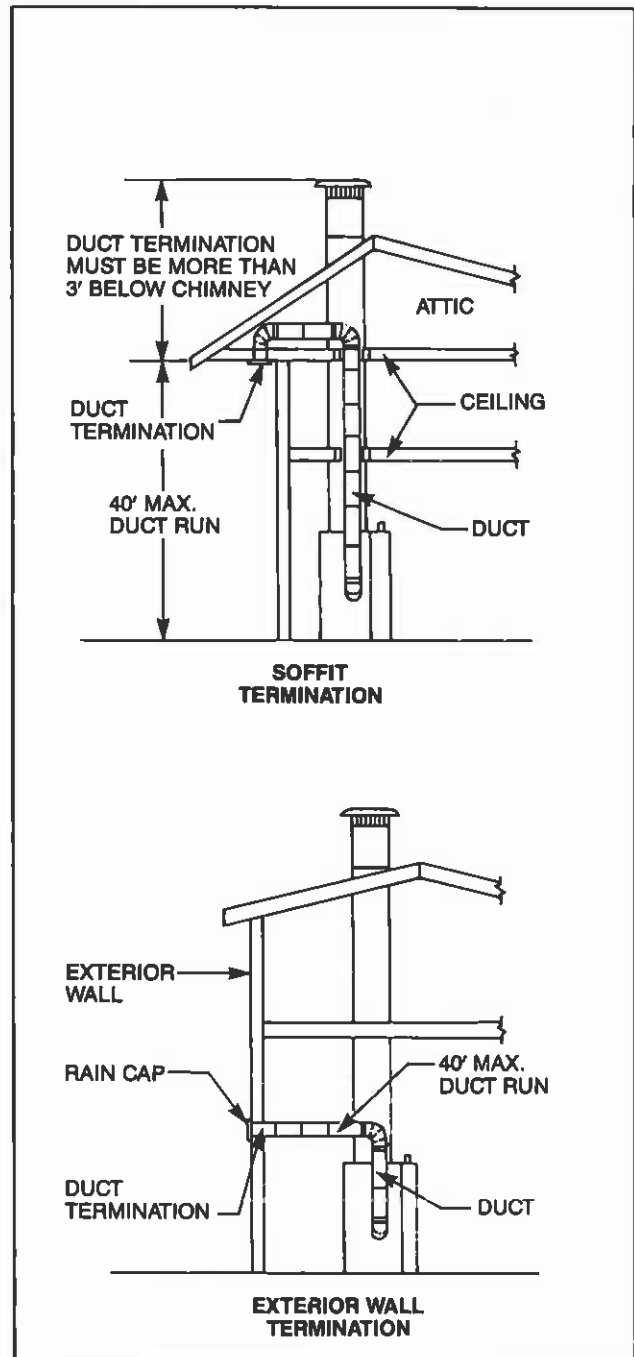

Fig. 2 Typical installations.
Duct run must be limited to a maximum distance of 40 feet from the fireplace pipe collar to duct termination. This will provide the least restriction to air flow. No more than four 90° elbows can be used. Duct run may be horizontal, vertical inclined or any combination of these. Vertical duct runs must be at least three (3) feet below the fireplace chimney flue exit. (See Fig. 2.) You are now ready to install the MBA-42A Outside Air Kit.